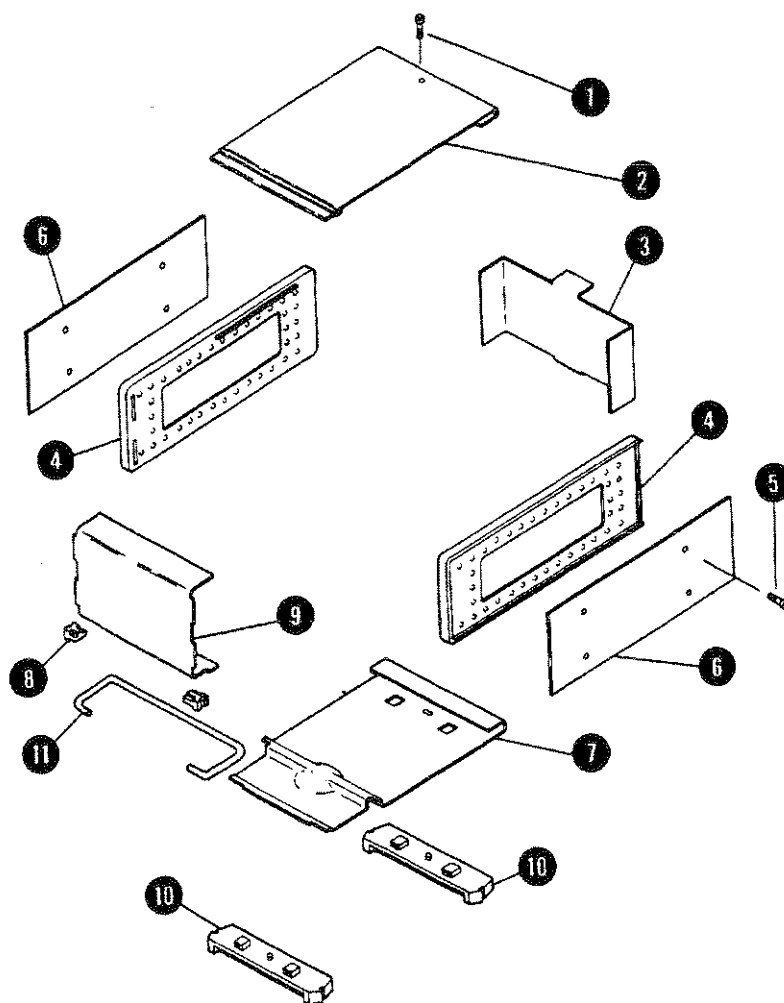

Figure 10. Cabinet Parts Exploded View
CABINET PARTS (SEE FIGURE 10)
64. Disassembly of A3 Sampling Gate Assembly. For steps 1 through 3 see Figure 11. Refer to Figure 10 steps 4 through 8.